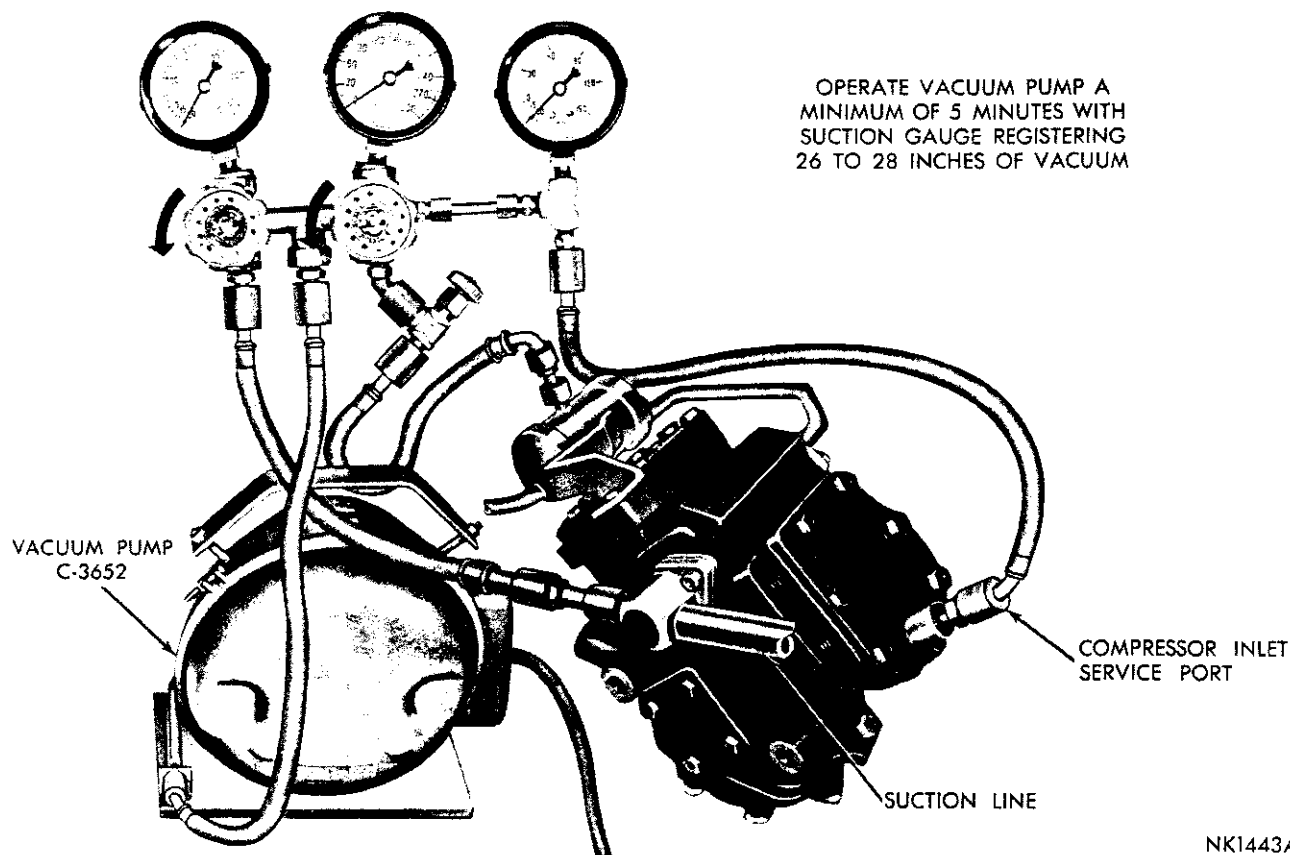

Fig. 1—Evacuating the System—(Challenger)
(1) Connect gauge set manifold to compressor and long test hose from gauge set manifold center connection to vacuum pump, Tool C-3652, as shown in Figures 1 and 2.
(2) Open both gauge set manifold valves, and the needle valve.
(3) Start the vacuum pump and operate until the evaporator suction gauge registers at least 26 inches of vacuum. If system is tight and pump in good condition, vacuum will go as low as 28 inches.
(4) Allow vacuum pump to operate with the suction gauge registering 26 to 28 inches of vacuum for a minimum of five minutes.
(5) Close both gauge set manifold valves, turn off vacuum pump and remove test hose from vacuum pump. Leave gauge set manifold connected to compressor. Charge system with proper amount of Refrigerant 12.